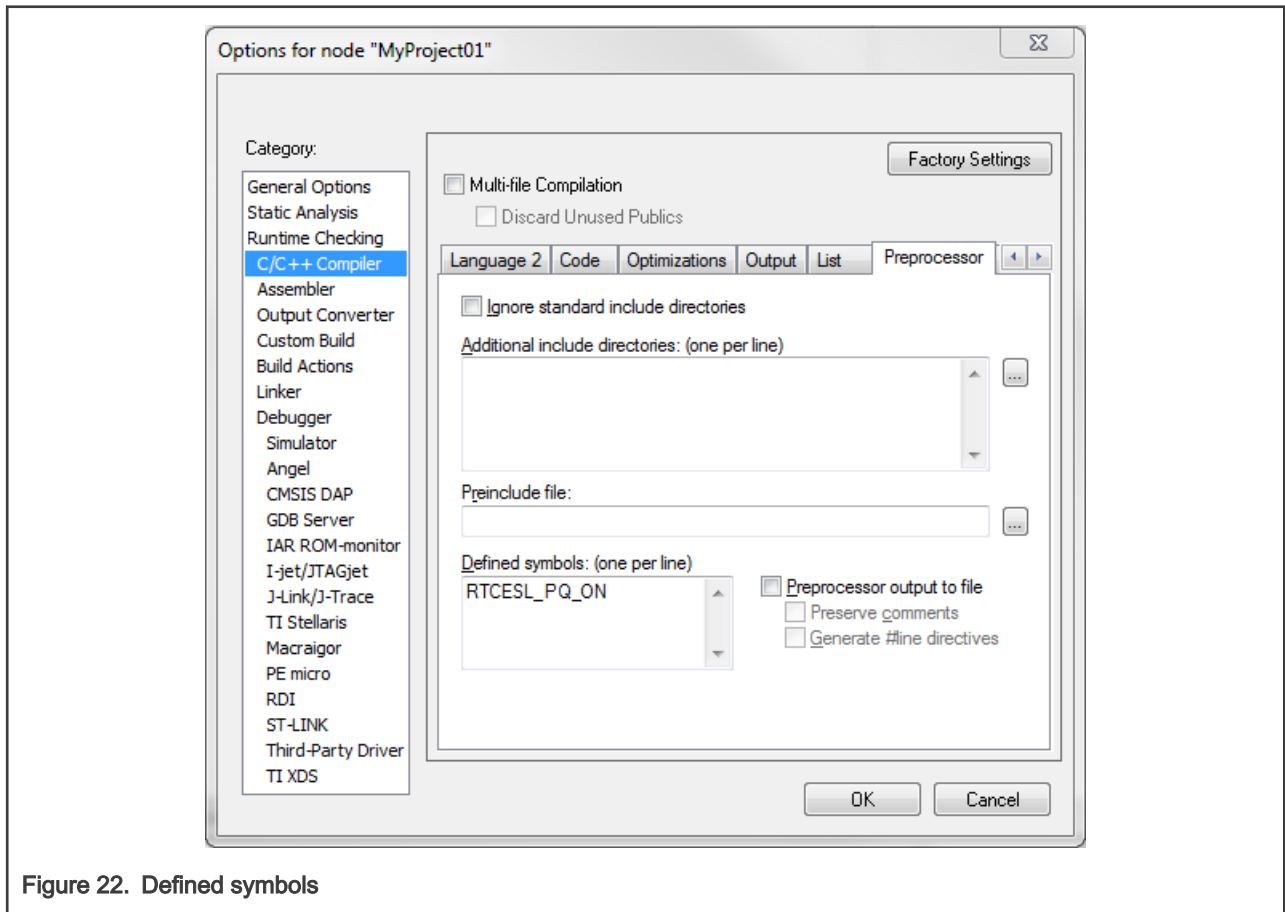

Figure 22. Defined symbols
4. In the text box (at the Defined symbols: (one per line)), type the following (See Figure 22):